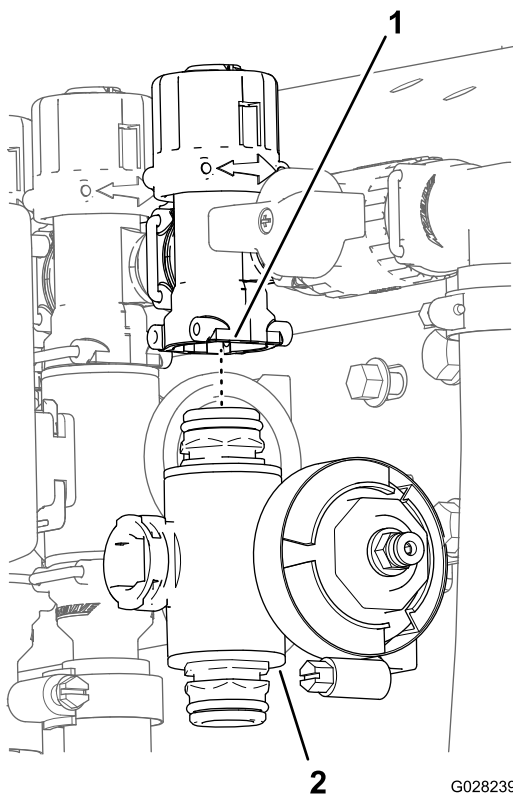

Figure 56
3. For the left or right boom section valves, remove the flanged-head bolts and flanged locknuts that secures the section valve(s) to the valve mount and remove the valve manifold(s) from the machine; for the center section valve, remove the section valve manifold from the machine (Figure 56).